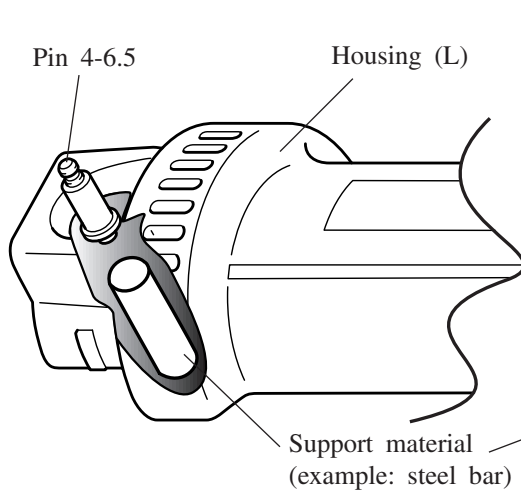

Fig. 2
- 1) Place pin 4-6.5 into hole in housing (L). See Fig. 2.
- 2) Place housing (L) over support material (example: steel bar) to support pin 4-6.5 during final assembly. See Fig. 2.